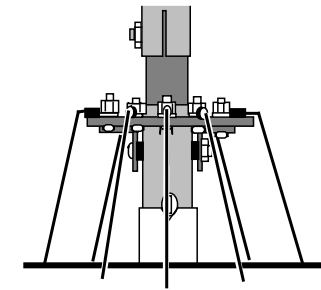

Figure-12A: Connecting Radials to Base Radial Ring
- [] Install the antenna base assembly on its mount (see Figure-12A).